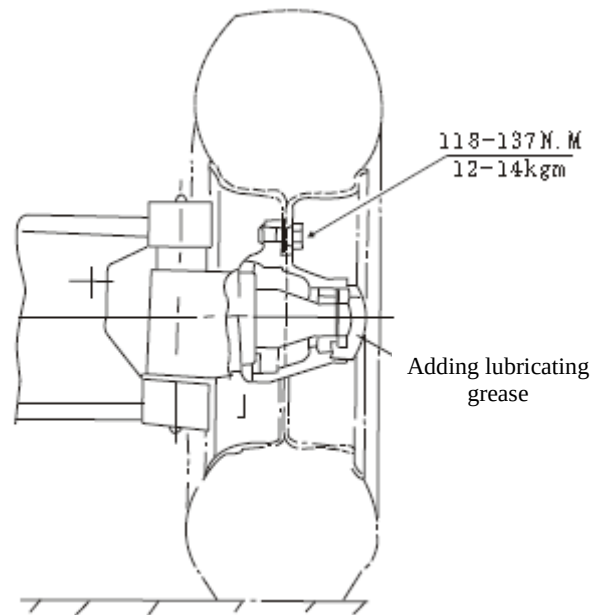

Fig. 3-6 Adjustment of Pretension Load
- (1) Lubricate the hub, inner and outer bearings, internal chamber of hub cover, and oil seal lip. See Fig. 3-6.
- (2) Fix the bearing cup on the hub. Install the hub onto the steering knuckle shaft.
- (3) Install the plain washer and tighten the slotted nut to a torque between 206N.m and 235N.m (21-24kgm). Loosen the slotted nut and then tighten this nut to 9.8N.m (1kgm).
- (4) Beat the hub lightly with a wood hammer to rotate the hub for 3-4 circles. Make sure the hub is not loose.
- (5) Tighten the slotted nut and align the slot with the split pin hole on the steering knuckle.
- (6) Beat the hub lightly again with the wood hammer. Rotate the hub for 3-4 circles by hands to ensure stable rotation. Measure the rotating torque of the hub. It shall be 2.94-7.8N.m (0.3-0.8kgm).
- (7) When the rotating torque exceeds the specified value, rotate the hub back for 1/6 circle. Measure the torque again.
- (8) When the specified torque is reached, lock the slotted nut with the split pin.